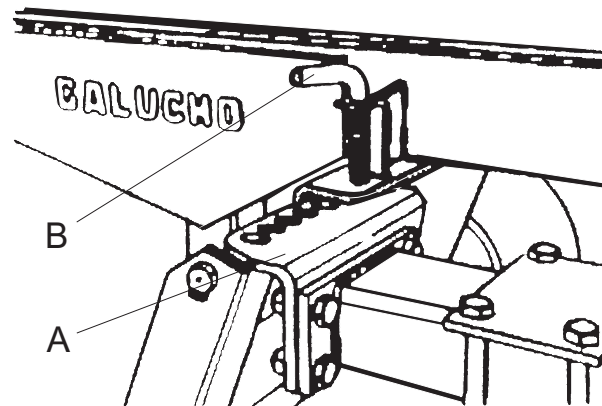

Fig. 4
7-With the help of a lifter or another identical means, move each bodies so that, in the suitable end to be possible to fix the positioning bolt (Fig. 4 - A) on the outer hole. Afterwards, tighten the corresponding body gudgeon through 2 plates and 4 screws.
- The 2 position bolts, for transport security (Fig 4-A) must be risen under the risk of damaging the system. It is the hydraulic cylinder which, acting over each body, establishes the desired angle.